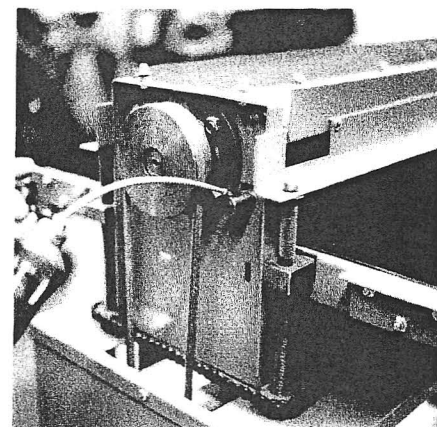

Fig. B-3
2. Oil press roller bronze bushings with 2 - 4 drops on the side of the bronze bushing where it touches the machine frame, and where the shaft goes through the bushing every 20 hours of operation (see fig B-3). Oil more often under severe use.